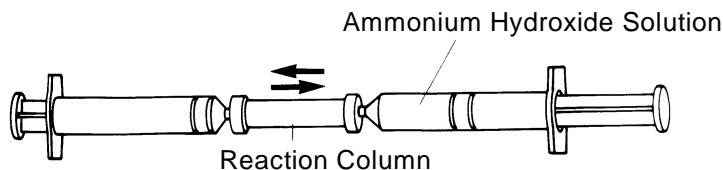

Figure 2-43 Syringe Column Cleavage and Deprotection
2. With the plunger fully depressed into the barrel, attach a slip-tip Luer syringe to one end of the column or MemSyn device (see Figure 2-43).
2. With the plunger fully depressed into the barrel, attach a slip-tip Luer syringe to one end of the column (Figure 2-43).